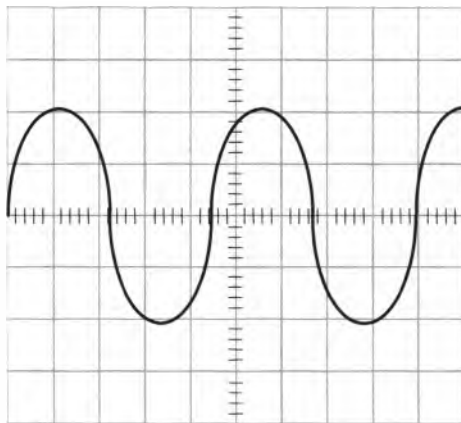
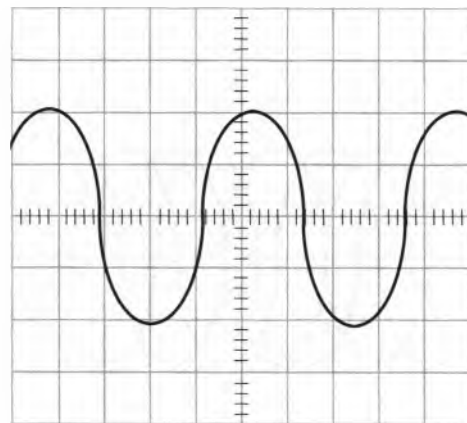

Figure 7
Figure 8
6. What oscilloscope control would you adjust to change the display from Figure 7 to Figure 8?